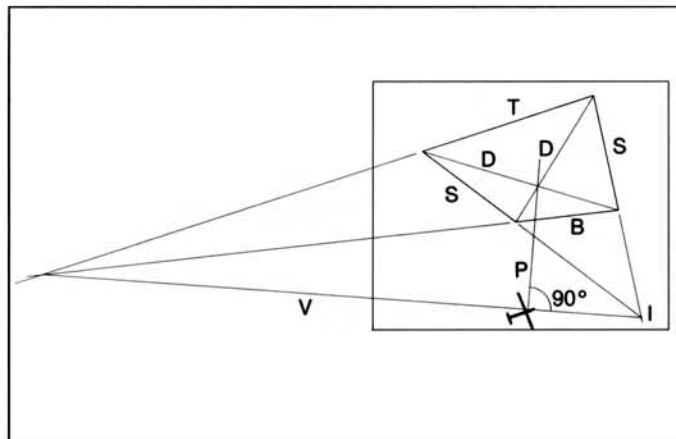

FIG. 3
The obvious features on a photo which line up are those which lie on edge of the photo. First, as accurately as you can, delineate the top, bottom and sides of the photographed area onto a topographic map of the TP region. The photographed area will have a shape on the map similar to Figure 3, - in which the letters T, B and S denote the straight line boundaries corresponding to the top, bottom and sides of the TP photo, and D denotes the diagonals of the resulting quadrangle drawn on the map. The technique is then; extend lines T and B to their intersection, similarly find the intersection (I) of the extensions of the sides (S). Join these intersection points with a straight line (V) and finally draw the last line (P) at right angles to line V through the intersection of the diagonals. If the camera was level or almost level with the horizon when the TP photo was taken, then lines T and B will be essentially parallel and line V cannot be completed. In this case, the glider's position will be at point (I) or slightly towards the side to which some convergence of the lines T and B is evident. If, as is likely, the boundary lines of the photograph cannot be determined exactly on the map, then extend pairs of parallel lines while doing the above geometry, letting the line-pair's spacing be a measure of the uncertainty of the boundary. The glider position will then resolve itself to a most likely area.